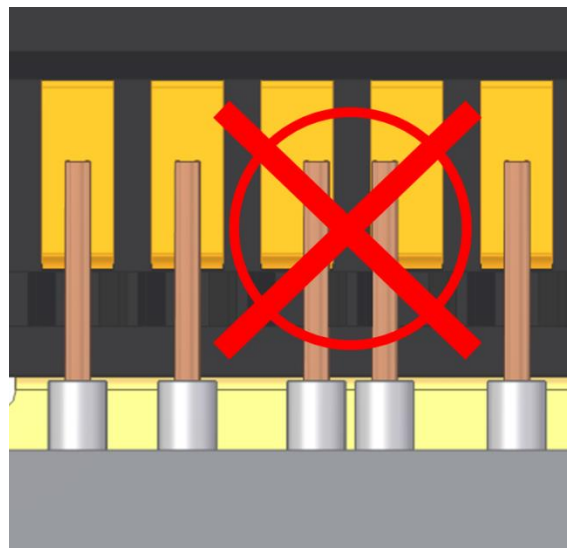

Fig.6 AWG#40
⑤ Center-conductors are soldered with pulse heater. Please make sure both center are complete match. See Fig.6 of bad way soldering condition.